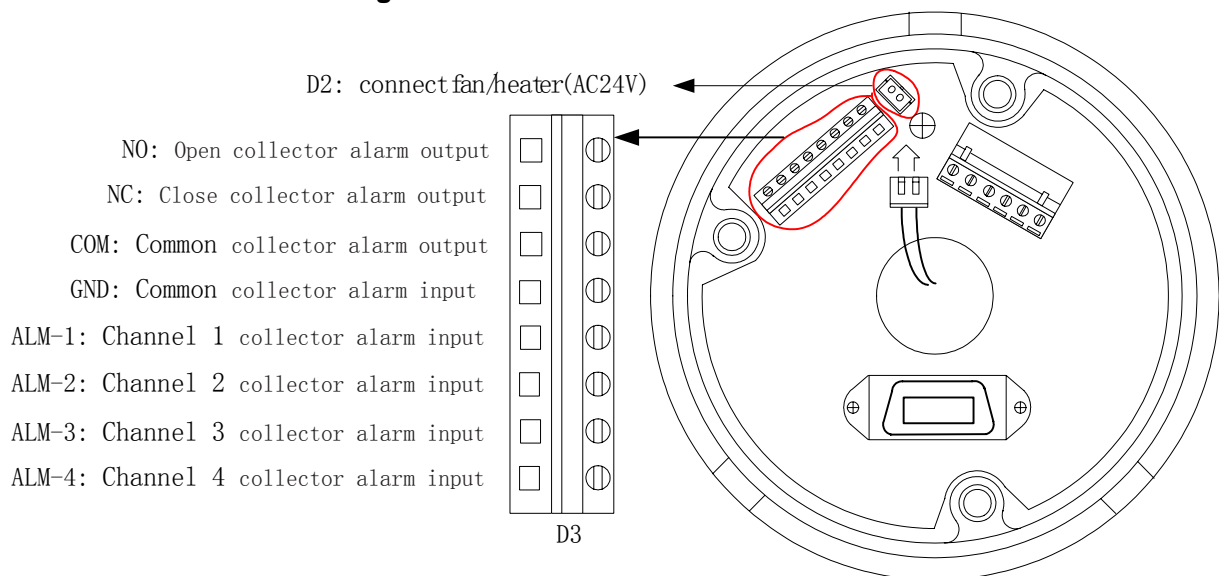
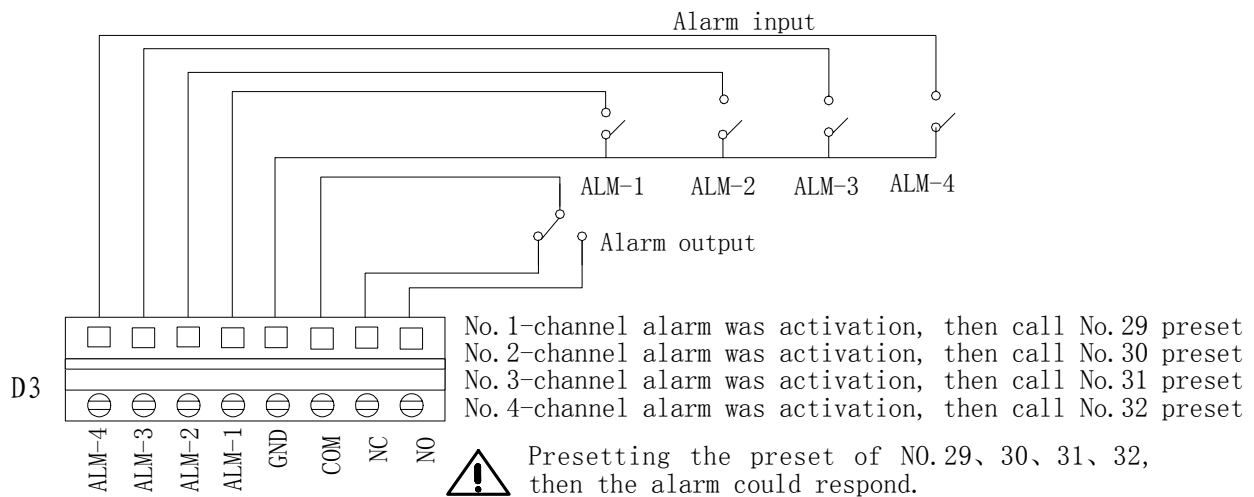

Figure 15-1
Figure 15-2
- 10) Insert attachment plug in aluminum alloy into socket D2 (Figure 15-1). According the fig of D3 to connection. As show of fig15-1, when dome identify the alarm signal, that will set according the program immediately, then startup camera, switching the image of alarm field to main monitor. Surveillance the alarm preset, then record it in time. Fig15-2 is connection of alarm control.